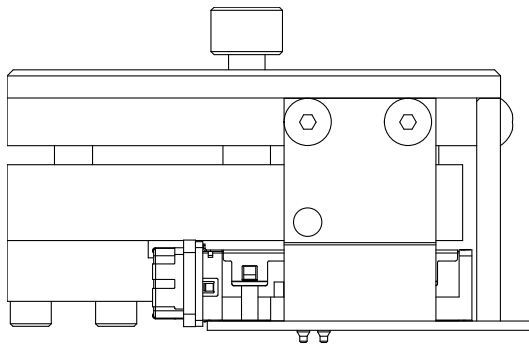

Figure 4
4. Position the upper tooling assembly over the pins in the blade removal assembly. Lower the upper tooling assembly until the side plates contact the pc board. See Figure 4.